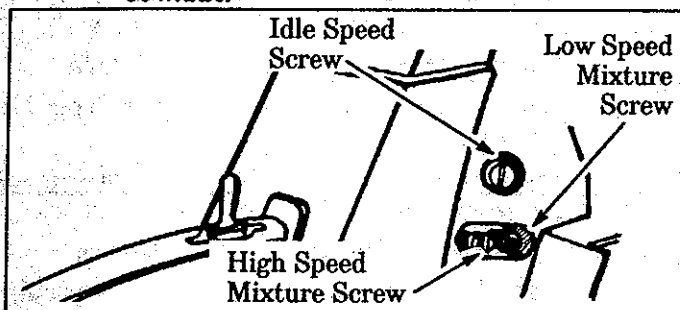

Figure 41
- Locate the three (3) carburetor adjusting screw openings to the right of the air filter cover. Figure 41.
- Start the engine and allow engine to idle three (3) minutes to warm up. *The engine must be at operating temperature for proper adjustments to be made.*